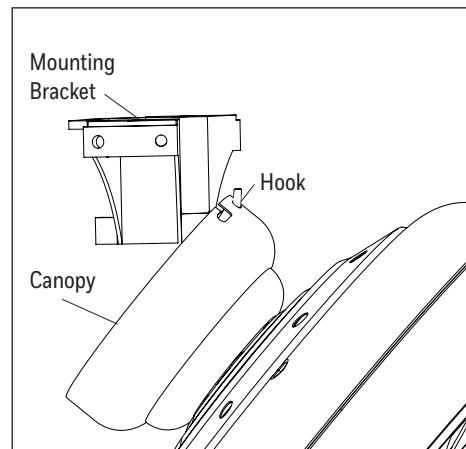

Figure 4.3
3. Raise the motor assembly and place the canopy on the hook of the mounting bracket to free hands during the wiring process (Figure 4.3).